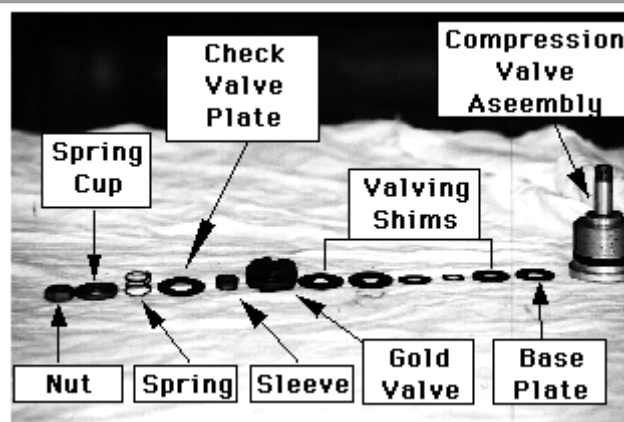

Fig 11
18. Remove the nut, spring cup, check valve sleeve, check valve plate, base valve, low speed valve stack, high speed valve stack, and base plate, **fig 11**. **Lay out the pieces in the order they came of the shaft.** Clean and inspect the pieces.